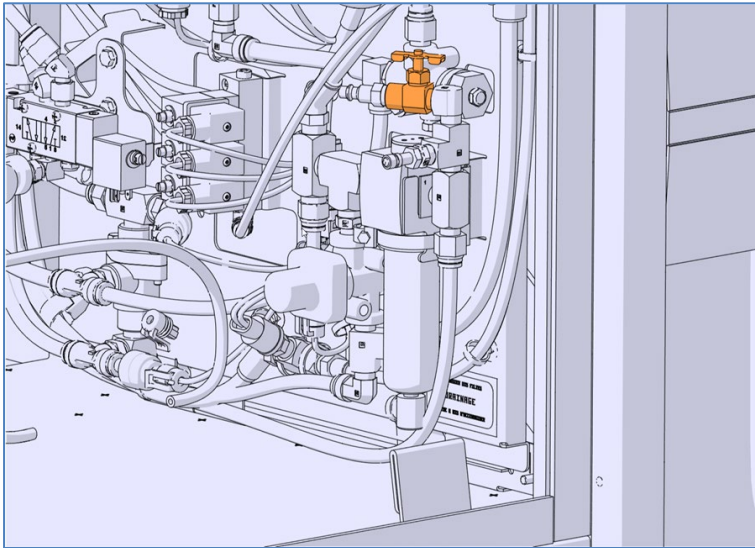

Figure 2
- 16) Set the automatic tag unload override valve to NORMAL TAG (see Figure 2).